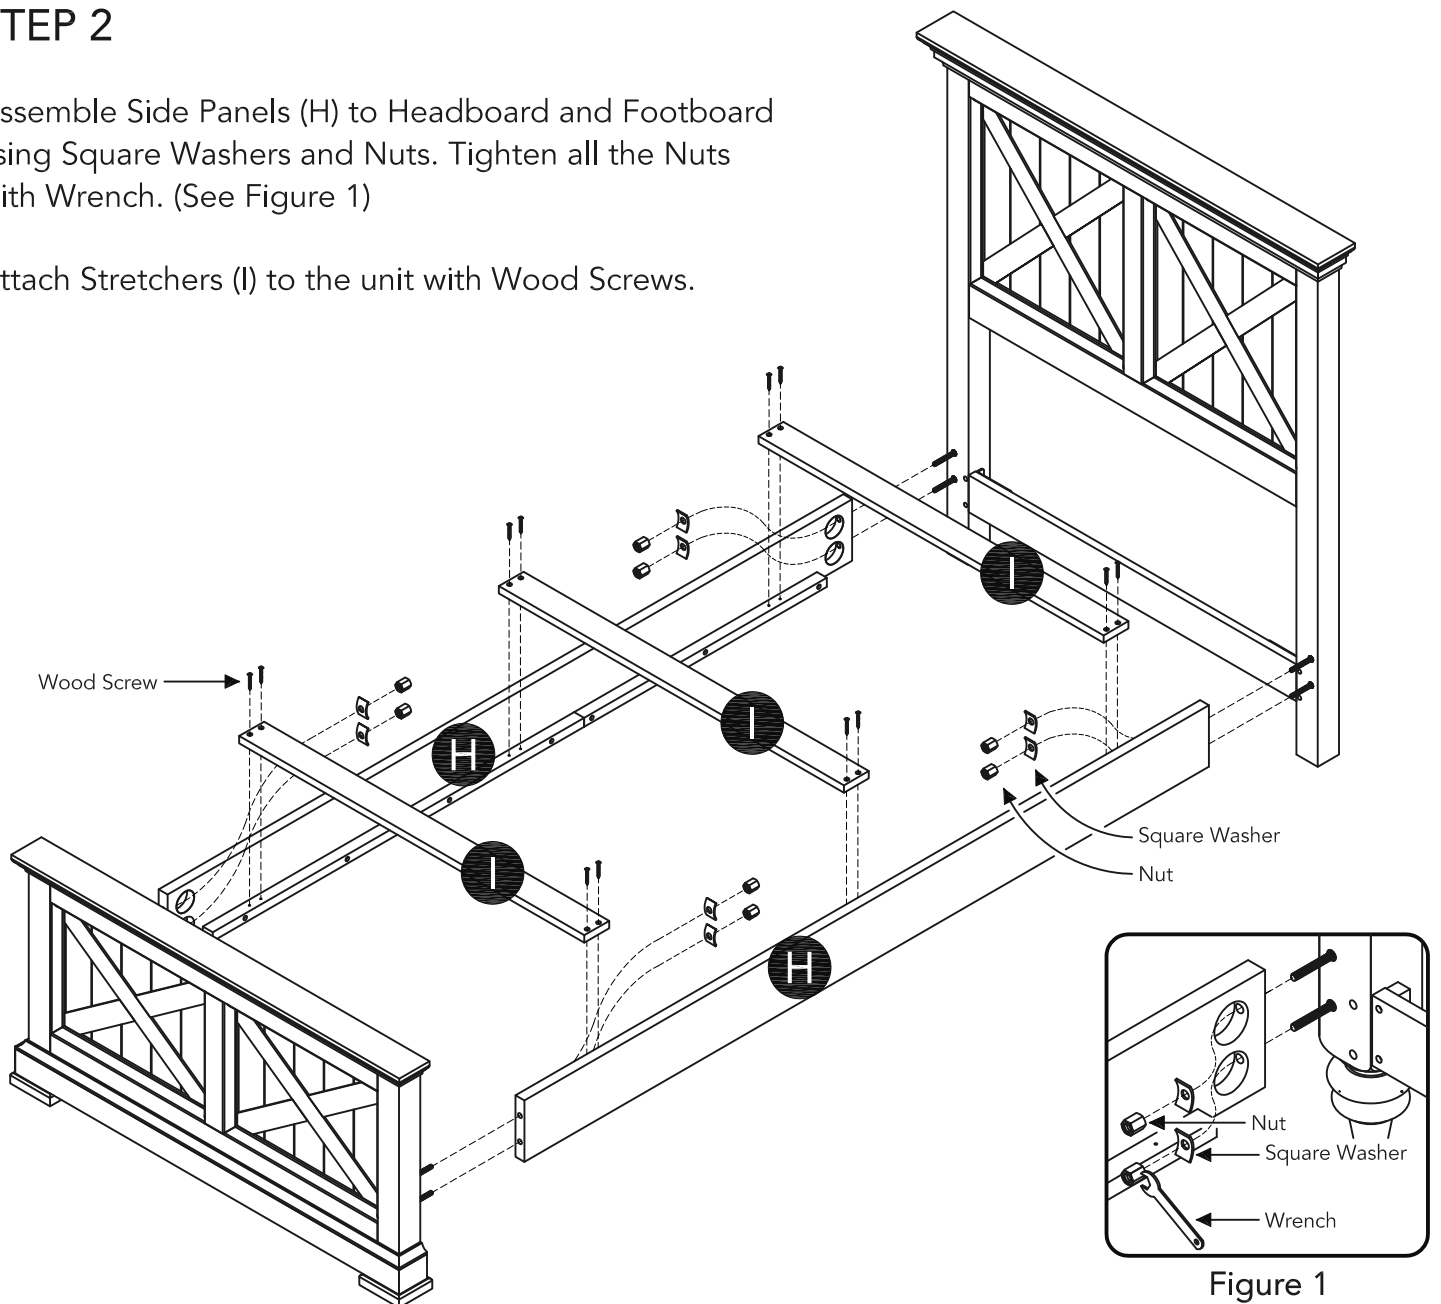

Figure 1
Assemble Side Panels (H) to Headboard and Footboard using Square Washers and Nuts. Tighten all the Nuts with Wrench. (See Figure 1)